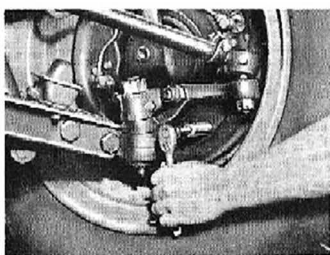

Fig. 34—Wagner Type "F"
1. Jack up front of vehicle. Place wrench on one adjusting cam stud to adjust one shoe (fig. 34). Rotate wrench in direction of forward wheel rotation to decrease lining to drum clearance. Reduce clearance until brake drag is felt as wheel is turned in forward direction by hand.